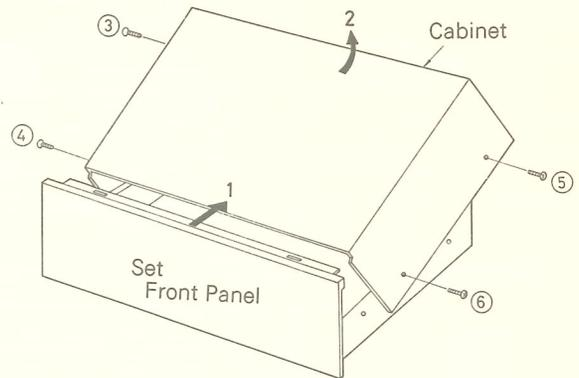

Fig. 2
2. Remove four (4) cabinet-mounting screws, nos. ③~⑥ as shown in fig. 2.
3. Remove cabinet from chassis in arrow direction 1 to 2, as shown in fig. 2.